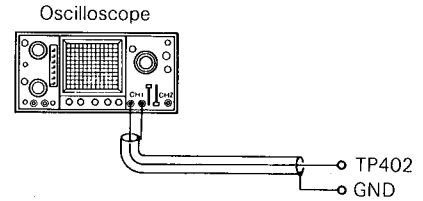
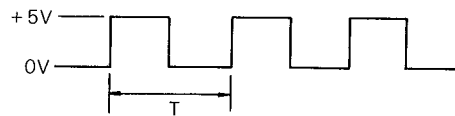

Fig. 11
Fig. 12
- (1) Connect oscilloscope to TP402 and GND. (Fig. 11)
- (2) Insert Philips test disc #5 and place the unit in test mode 2. (See page 10)
- (3) Adjust VR201 so that the period (T) is minimized. (Fig. 12)